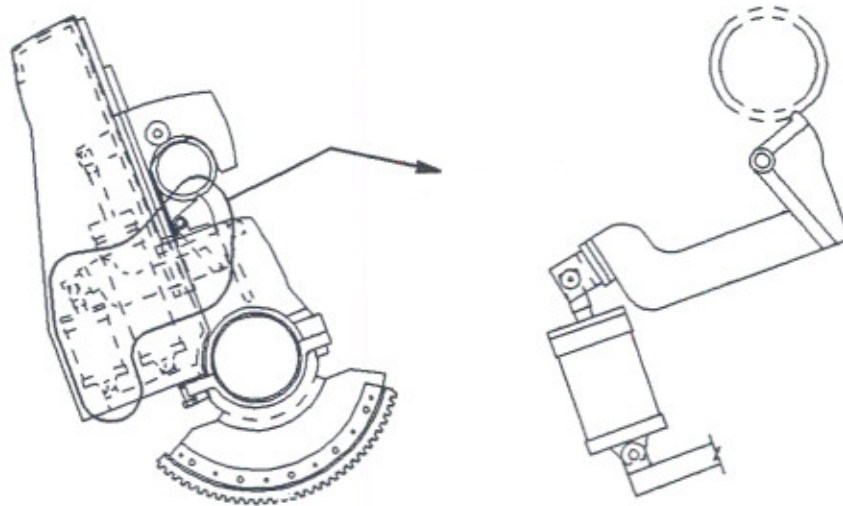

Figure 2-22. Primary Arm Nip Relieving
1. The hooks slide within the primary arms, activated by air cylinders mounted inside the arms (see Figure 2-22). The sliding surfaces to be lubricated with a dry lubricant to eliminate a buildup of paper dust. This contamination can cause a jerking sliding motion of the hook and possible wearing of the slide surfaces. Periodic cleaning and relubrication of the sliding surfaces are required. Check the air cylinders occasionally for leaking packing and air connections, worn or bent cylinder rods and worn pivots. Small shear pins are used in the cylinders to act as a safety device in case the hooks become restricted and can not be operated to the unload position when a spool building paper log is on the secondary rails.